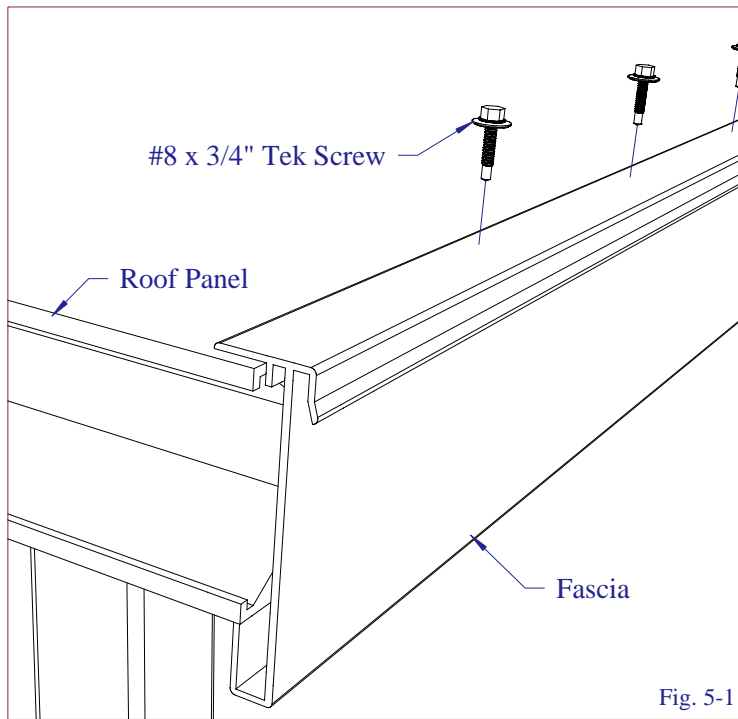

Fig. 5-1
- Place the front fascia over the front of the roof panels and attach with #8 x 3/4" Tek Screws as shown (see Fig. 5-1).